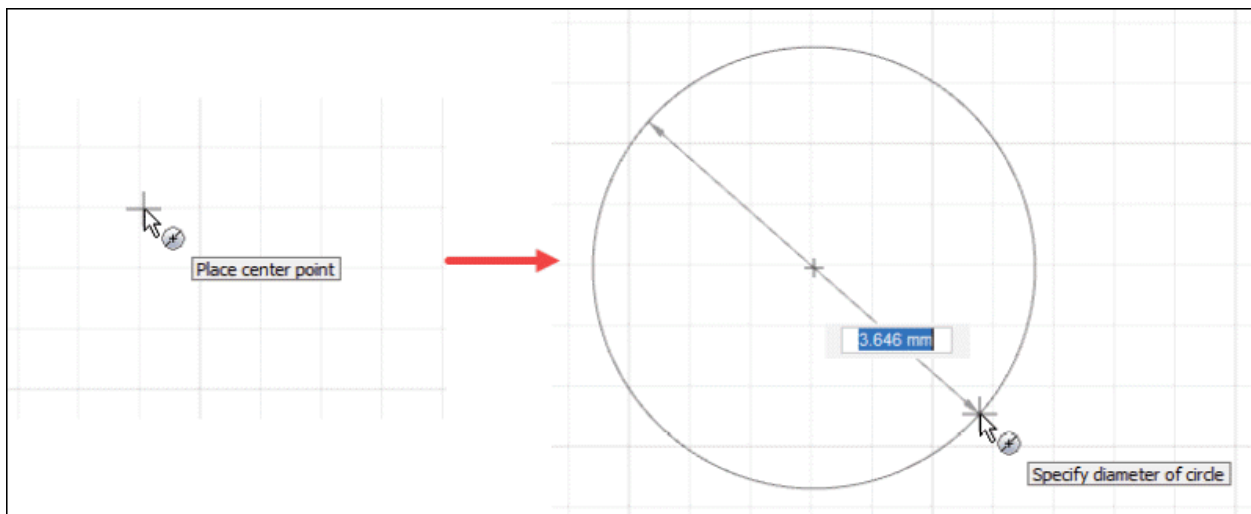

Figure-75. Specifying diameter of circle to create coil
- Click on the screen to specify the center point of sketch. Type desired value of diameter of coil in dynamic input box and press **ENTER**; refer to Figure-75.